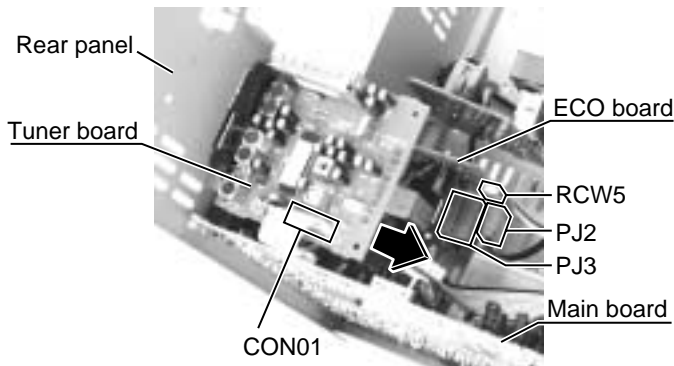

Fig.13
1. Disconnect the power cord from the connector PJ2 on the ECO board (see fig.13) and pull up the power cord stopper upward.